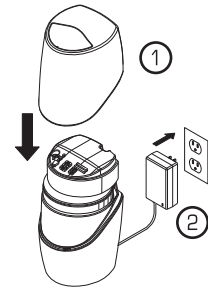

Fig. 49
3. **Place** the Top Shroud onto Base ①. **Plug** the Power Adapter into the wall outlet ② (Fig. 49)